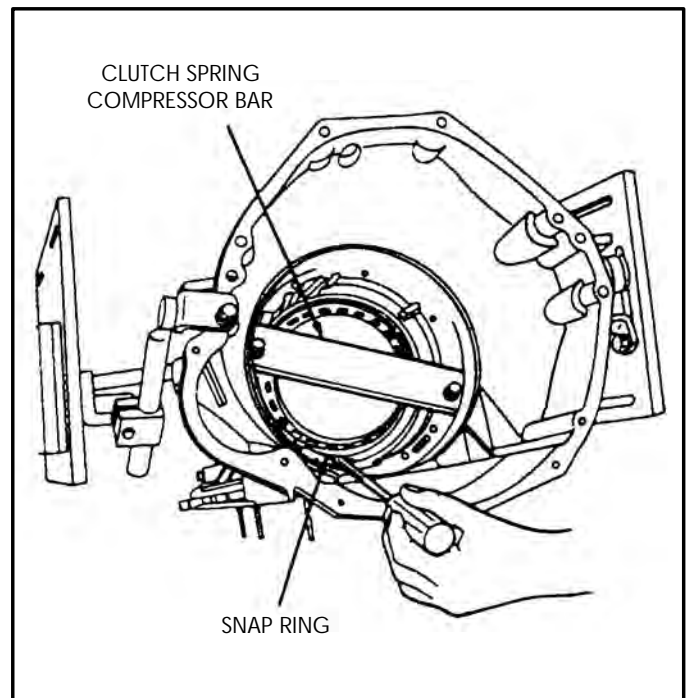

Figure 62
13. Remove snap ring with large a screwdriver as shown in Figure 62, and then remove the compressor tool.